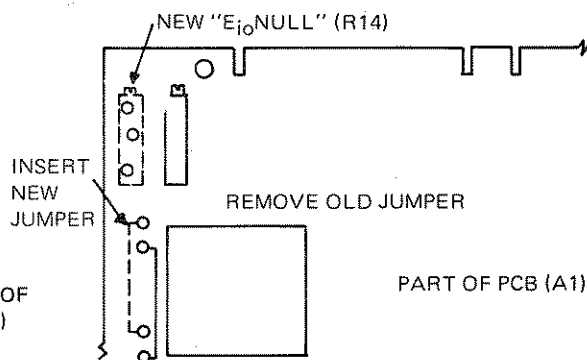

FIG. 5-2 INSTALLATION OF
- Remove thy PCB Assembly from the chassis as described in paragraph 5-3. Locate the pre-designated space for the additional components on FIG. 5-2.